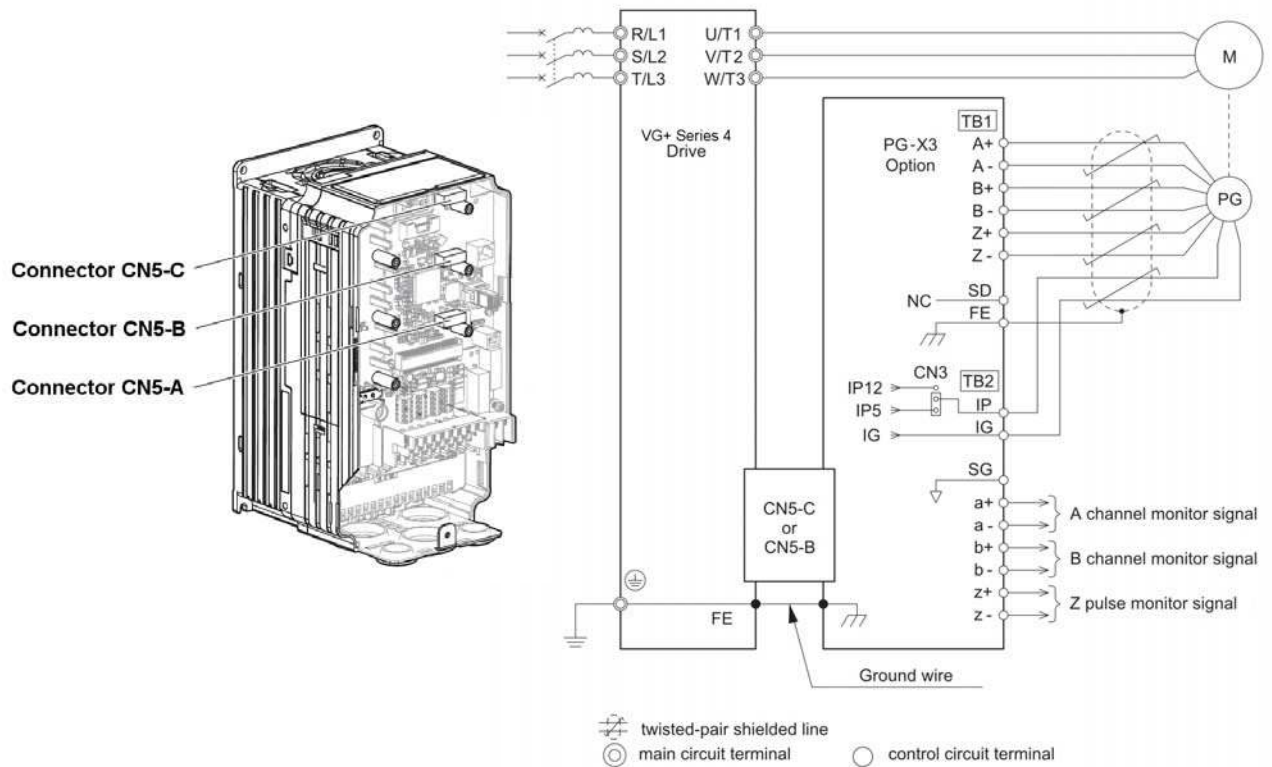

Figure 3-14: PG-X3 Encoder Card Wiring
The Safe Torque Off feature (Figure 3-14) includes safe disable inputs (H1 and H2) and safe monitor outputs (DM+ and DM-).
2. Connect the encoder to the PG-X3 Encoder Interface Card. Refer to Figure 3-14: “PG-X3 Encoder Card Wiring” on page 3-22.